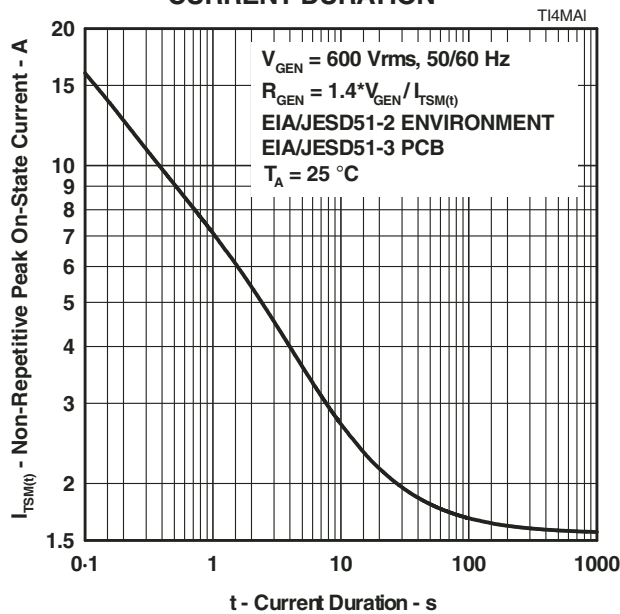

Figure 9.
5. EIA/JESD51-2 environment and EIA/JESD51-3 PCB with standard footprint dimensions connected with 5 A rated printed wiring track widths. See Figure 9 for the current ratings at other durations. Derate current values at  $-0.61\text{ }^\circ\text{C}$  for ambient temperatures above  $25\text{ }^\circ\text{C}$ .
The protector can withstand currents applied for times not exceeding those shown in Figure 9. Currents that exceed these times must be terminated or reduced to avoid protector failure. Fuses, PTC (Positive Temperature Coefficient) thermistors and fusible resistors are overcurrent protection devices which can be used to reduce the current flow. Protective fuses may range from a few hundred milliamperes to one ampere. In some cases, it may be necessary to add some extra series resistance to prevent the fuse opening during impulse testing. The current versus time characteristic of the overcurrent protector must be below the line shown in Figure 9. In some cases, there may be a further time limit imposed by the test standard (e.g. UL 1459 wiring simulator failure).